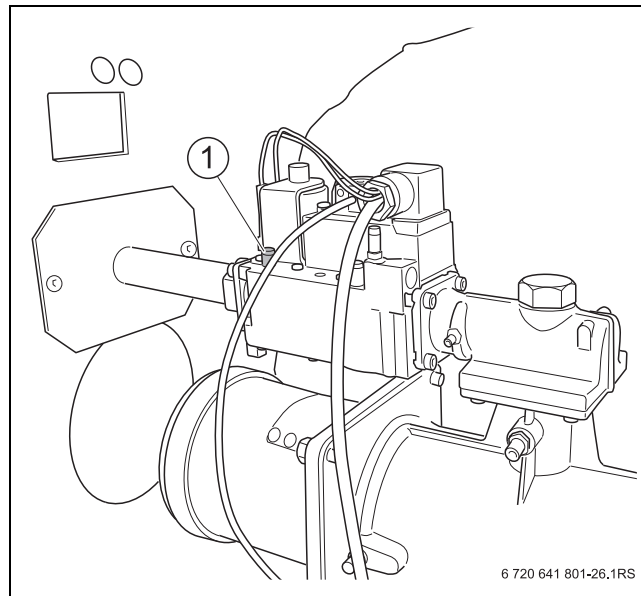

Fig. 31 Venting the gas line (boiler size 90/120 kW)
- Undo the locking screw of the pressure test port for the gas supply pressure and venting (→ Fig. 31, 32, 33, [1], page 24) by two turns, and then push on the hose.